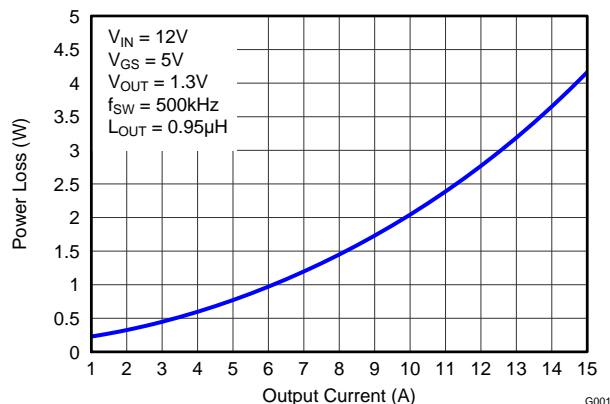
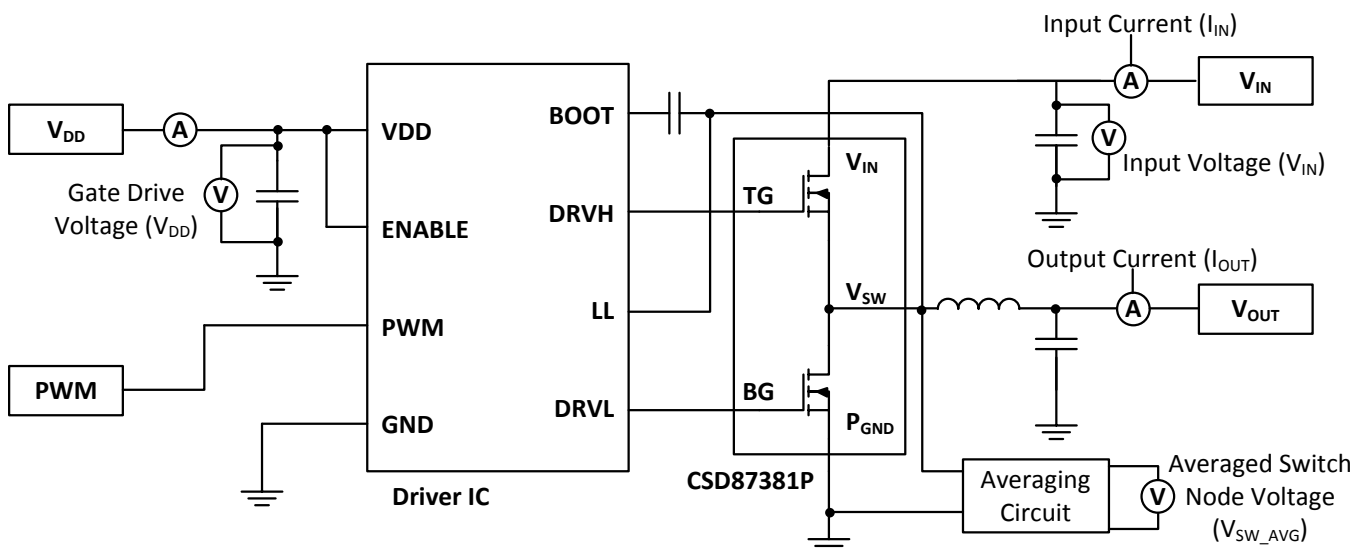

Figure 1. Power Loss vs Output Current
Figure 27. Typical Application
MOSFET centric parameters such as  $R_{DS(ON)}$  and  $Q_{gd}$  are needed to estimate the loss generated by the devices. In an effort to simplify the design process for engineers, Texas Instruments has provided measured power loss performance curves. Figure 1 plots the power loss of the CSD87381P as a function of load current. This curve is measured by configuring and running the CSD87381P as it would be in the final application (see Figure 27). The measured power loss is the CSD87381P loss and consists of both input conversion loss and gate drive loss. Equation 1 is used to generate the power loss curve.
The power loss curve in Figure 1 is measured at the maximum recommended junction temperatures of 125°C under isothermal test conditions.
- Power Loss at 8A = 1.44W (Figure 1)